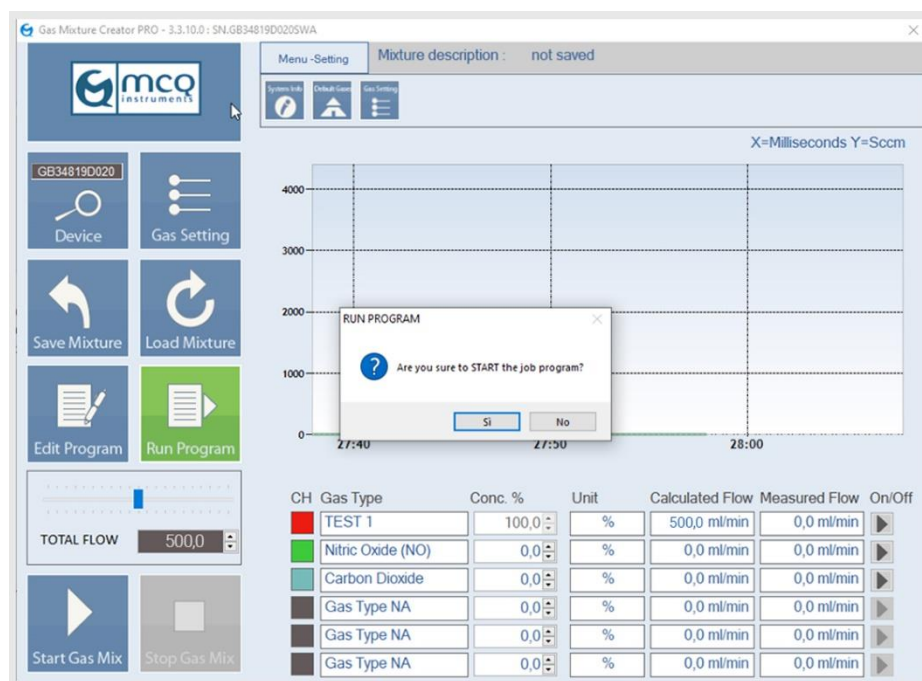

Figure 5-38
8. To RUN your created program, once you have load it, click on the button “**Run Program**” in the main screen of the software. A confirmation windows will be open and then click “**yes**”. (Figure 5-38)